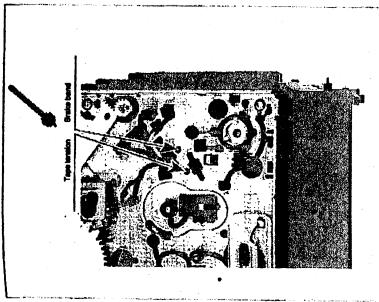

Fig. M10
- Change the tool to "Tape damping plate" and position the damping element exactly (see fig. M10T1).
- Adjust the brake band by means of adjusting tool from the bottom of the cassette deck (see Fig. M10A11) in the direction of the tape tension arm towards the left inner edge of the left guide (see fig. M10A11).
- Adjust (from the underside of the drive) the tension arm spring, pos. 11, to a tape tension of 0.24N ± 0.02N e.g. 24g ± 2g with the adjustment tool (see fig. M10T1).